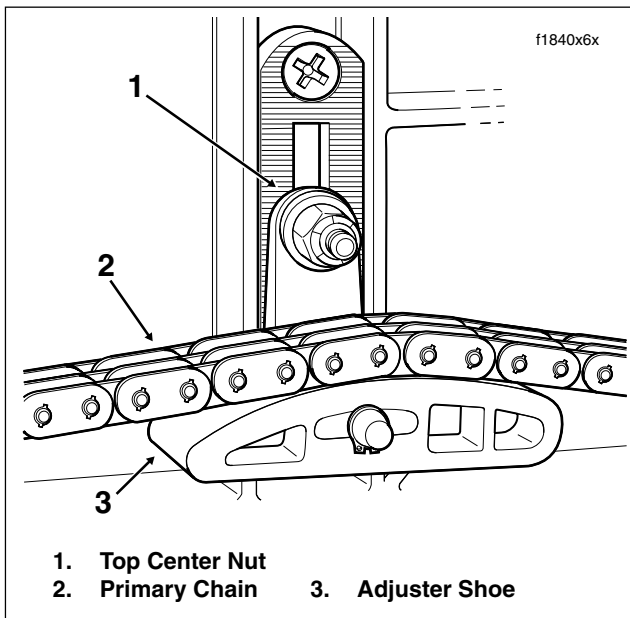

Figure 6-15. Primary Chain Tensioner Assembly
- Loosen top center nut from captured bolt of chain tensioner assembly. See Figure 6-15. Lower the chain tensioner assembly as required, so that the adjuster shoe rests flat on casting of primary chaincase.